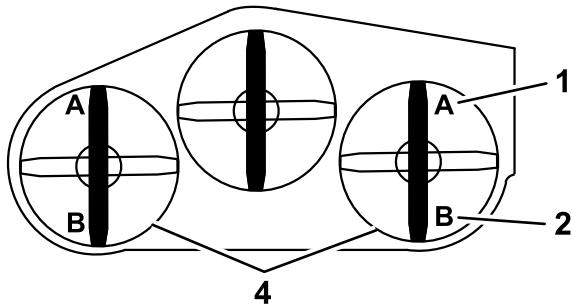

Figure 90
9. On both sides of the deck, measure from the level surface to the front tip of the blade (Postion A) as shown in Figure 90.
15. On both sides of the deck, measure from the level surface to the back tip of the blade (position B) as shown in Figure 90.